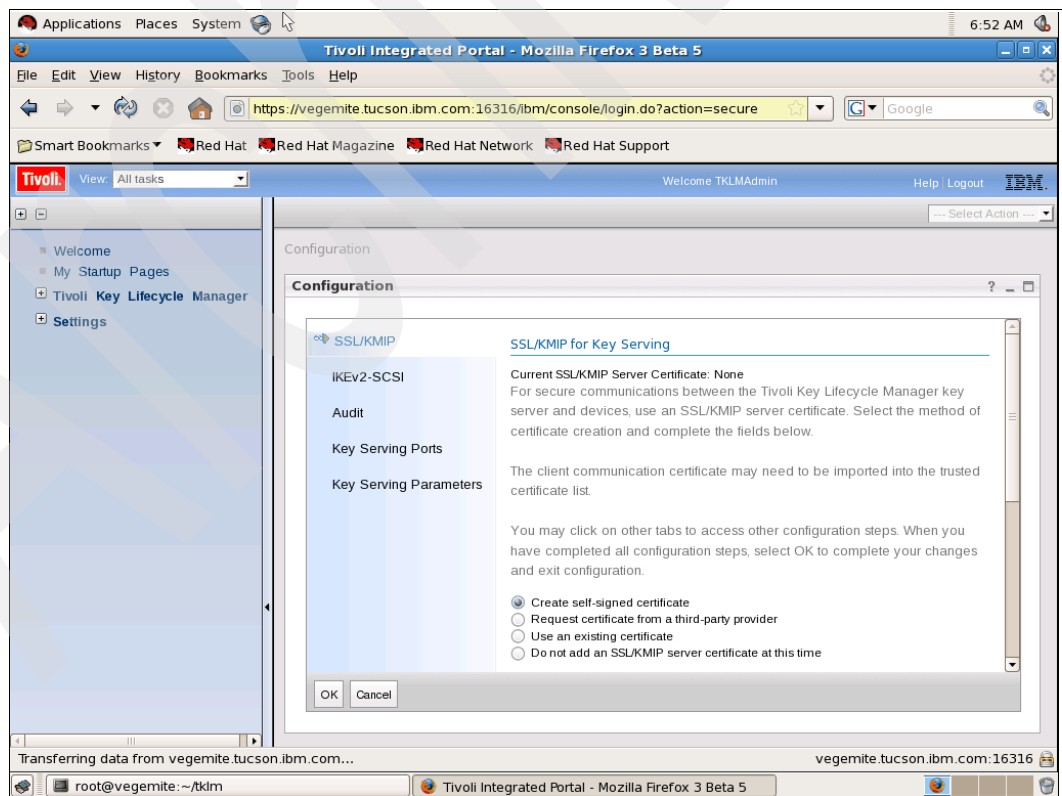

Figure 7-25 TKLM v2 keystore configuration
28. A configuration screen is displayed. In the **Key Serving Parameters** section clear any other marked choices and select **Create self-signed certificates**. Click **OK** (Figure 7-25) or scroll down to access additional parameter fields.